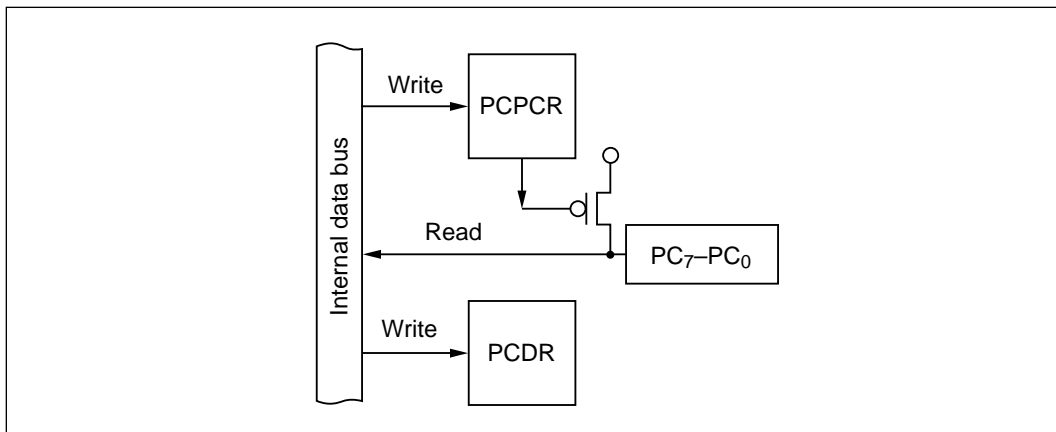

Figure 10-88 Input Port with Built-In Pull-Up Transistors (Mode 7)
(2) Input Port with Internal Pull-Up (All Pins: Mode 7): Figure 10-88 shows a block diagram illustrating the general-purpose input function of port C using the built-in input pull-up transistors. Table 10-66 indicates register read/write data. Values written in the port C data register (PCDR) have no effect on general-purpose input lines. When read, PCDR returns the value at the pin. When a bit in the port C pull-up transistor control register (PCPCR) is set to 1, the corresponding PCDR bit always reads 1.